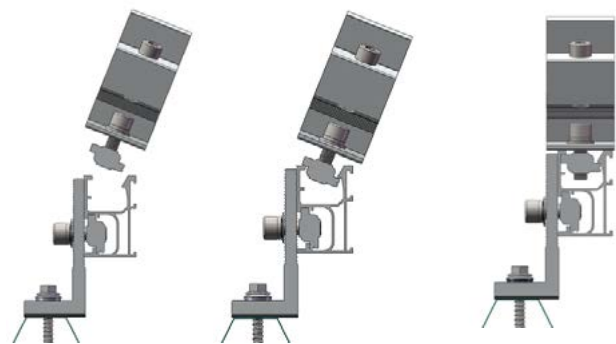

Figure 9
5.3.1 Fix the Front Leg into the top channel of ECO Rail, then fasten the Front Leg after the position is adjusted properly as shown in Figure 9 and 10.